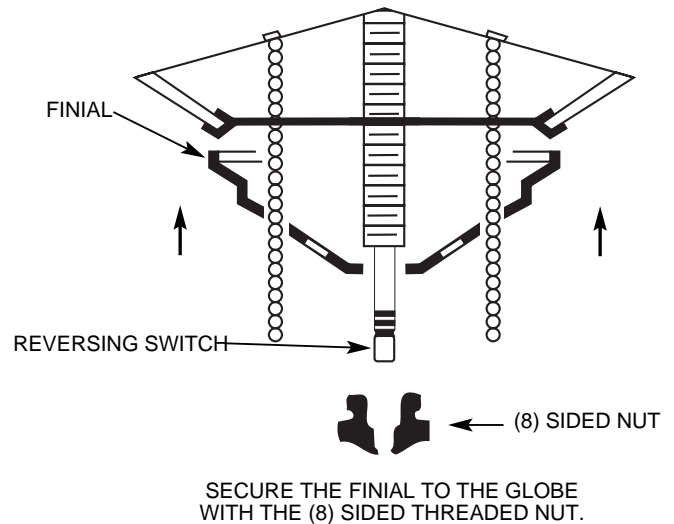

Figure 10B
Assemble the finial to the bottom of the light fixture by guiding the (2) pull chains and threaded tube through the (3) openings in the finial. See Figure 10B.
The motor reversing switch may be engaged by pulling down on the plastic rod extending out the bottom of the finial assembly nut. If you wish to reverse the fan direction slowly pull straight down on the plastic rod. See Figure 10B.